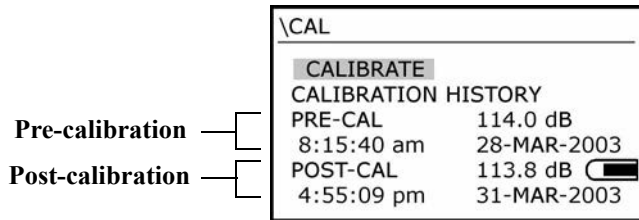

Figure 3–2: Calibration display
Use the Calibration display to view and save calibrations (Figure 3–2).
2. Press the **CAL** softkey in the Start display. The Calibration display appears (Figure 3–2).